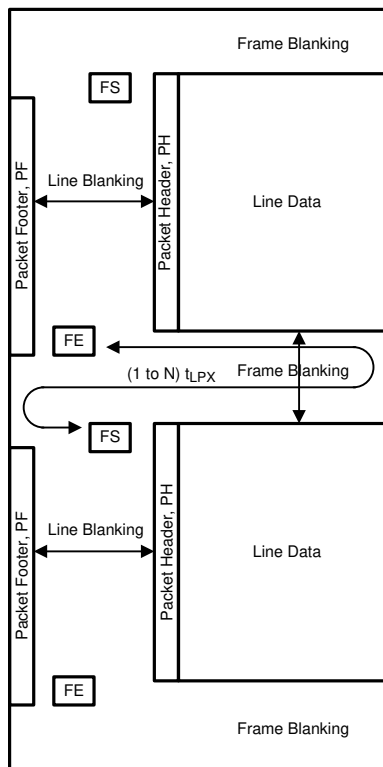

图 31. CSI-2 General Frame Format
The DS90UB940N-Q1 (in default mode) takes RGB 24-bpp data bits defined in the serializer and directly maps the bits to the pixel color space in the data frame. The DS90UB940N-Q1 follows the general frame format as described per the CSI-2 standard (图 31). At the end of the vertical sync pulse (VS), the DS90UB940N-Q1 generates the frame end and frame start synchronization packets within the vertical blanking period. The timing of the frame start will not reflect the timing of the VS signal.